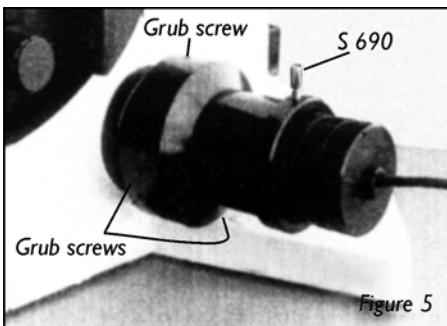

Figure 5
6. Fit H569 motor sleeve on the adapter ring. Tighten up 3 grub screws in sequence using the 2mm Hexagonal wrench key (figure 5). It may be
7. Slide the H249 Microstep Focus motor assembly into the motor sleeve and tighten the S690 thumb screw whilst gently pushing the focus motor assembly towards the microscope such that there is a good contact between the rubber surfaces of the drive of the motor and the drive coupling (figure 5). The fitting is now complete.